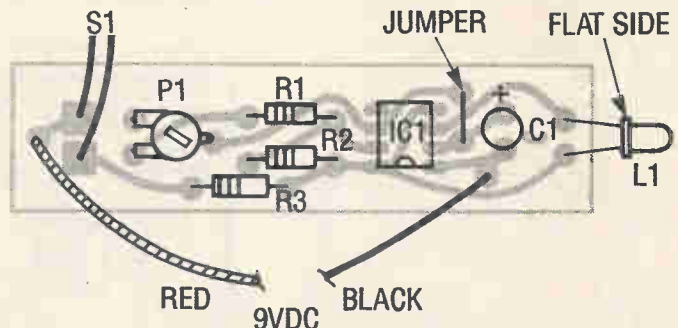

Figure 2. Make sure to orient the flat side of L1, and the notch on IC1, in the direction shown in the parts-placement diagram above.
1. Follow the parts layout shown in Figure 2, and refer to the Parts List and the schematic, as you assemble your Simulated Laser. Be sure to use only 60/40 rosin-core solder.
2. Observe polarity when installing electrolytic capacitor C1. Leave the leads of LED L1 full length, and observe the flat side location when installing. Bend L1 over after installing, so it faces forward as shown in Figure 2.